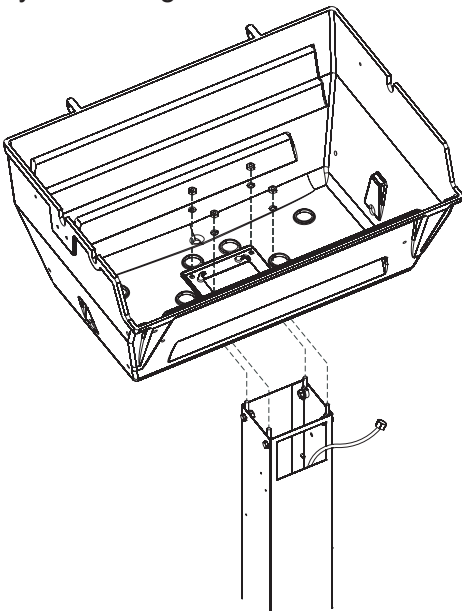

FIGURE 3
Insert a 1/4 - 20 x 3/4" bolt (5) through one of the four holes in the top of the post. Fasten a 1/4 - 20 1 3/4 eyebolt (4), 9/32 ID x 5/8 OD flat washer (1), 1/4 lock washer (2), and 1/4 - 20 hex nut (3) to the 1/4 - 20 x 3/4 bolt (5) inside the post. Repeat this process for the three remaining holes. Figure 3.
Secure the grill bottom to the post by placing a 1/4 lock washer and 1/4 - 20 hex nut onto each of the four eyebolts. Figure 3.